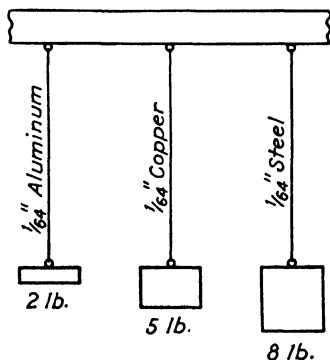

Fig. 207.
A. Demonstration 1. Take three wires—one aluminum, one copper, and one steel—all $\frac{1}{8}$ in. in diameter and suspend them as shown in Fig. 207.